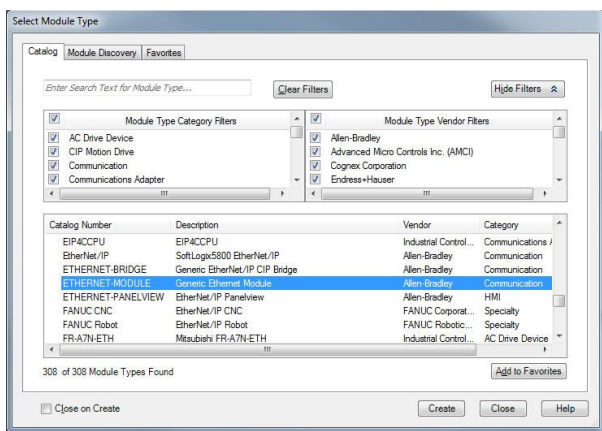

Figure 29: Adding a New Generic Ethernet Module
- 3) Choose "Generic Ethernet Module" in the Select Module dialog box and click "Create". Refer to Figure 29.